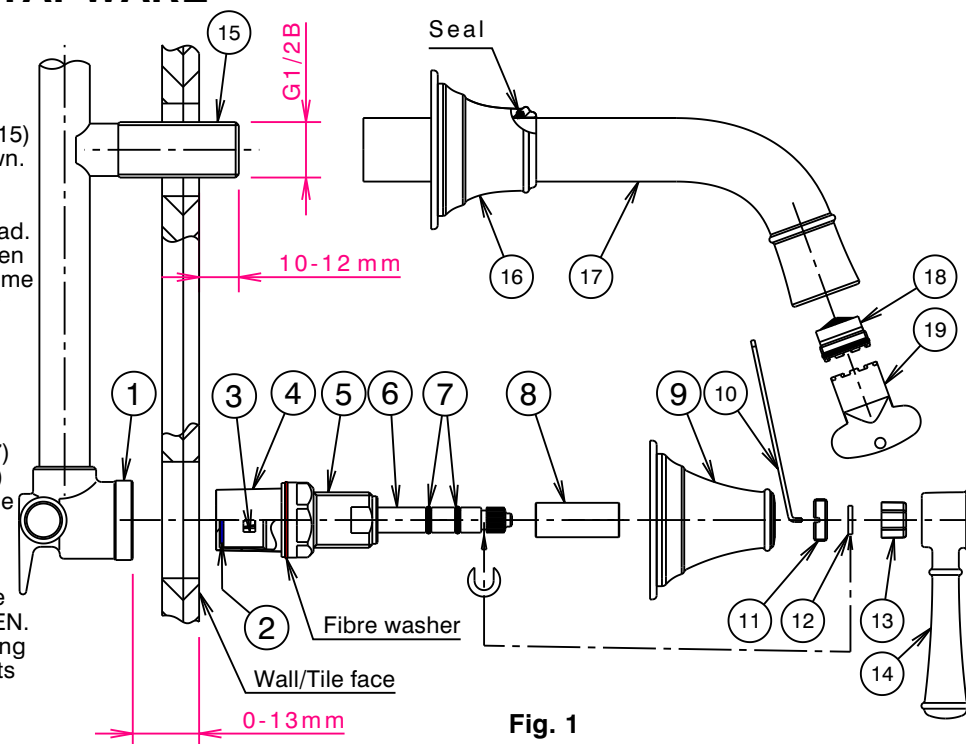

Fig. 1
- 1) Check that the face of the recess tap body (1) is 0-13mm from the wall/tile face, as shown in Fig. 1.
- 2) Check seats in recess tap bodies (1) are in good condition and free of foreign materials. Reseat if required. **Important:** All pipework must be thoroughly flushed prior to installation, to remove all foreign matter.
- 3) To install ceramic disc cartridges (3), first identify cartridge spindle rotation by seal (2) colour.